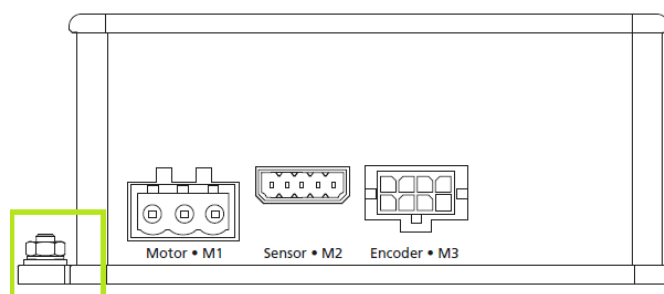

Figure 4: Screw connection for a RF strap
- Alternatively, if a proper ground connection cannot be setup via the backplane of the Motion Controller, it has to be established connecting a RF strap to the screw connection of the Motion Controller (see figure 4). The other end of the RF strap must be connected to the mounting plate, of course.
Cables with motor phases (connected to M1 – figure 4) require shielding to decrease emissions.
Cables with encoder or hall signals (connected to M3 or M2 – figure 4) require shielding to increase immunity towards disturbances.